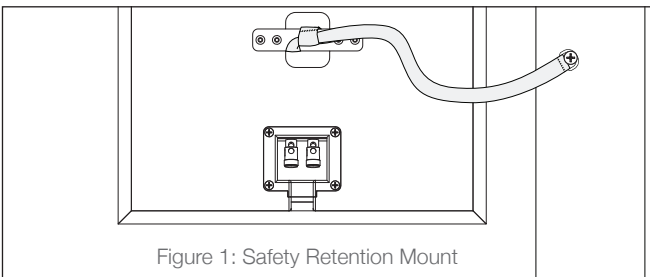

Figure 1: Safety Retention Mount
3. The R1C and R1CSUR in-ceiling speakers come with a safety retention mount on the back of the speaker. To ensure safety, loop a lanyard through the safety retention mount bracket and secure the other end to the ceiling joist (see Figure 1).